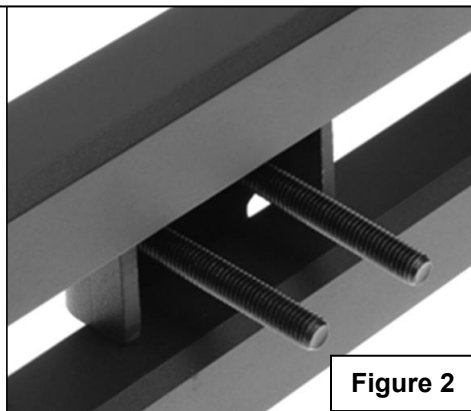

Figure 2
4. Select the Driver Side Bar. Slip (2) M10X1.5-75 Carriage Bolts into each 2-Hole Support Brackets, and insert the 2-Hole support bracket into the Driver Side Bar (**Figure 2**). Carefully position the Bar onto the (4) Mounting Brackets.